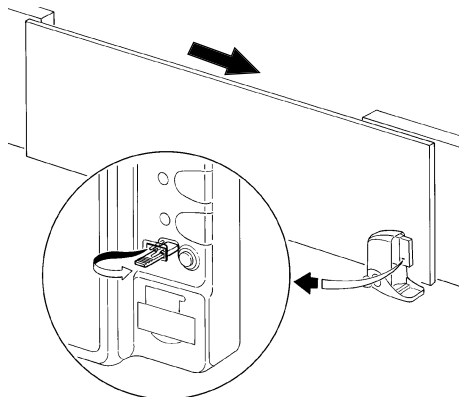
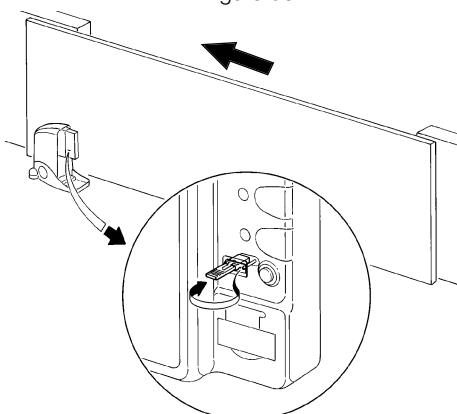

Figure 50
Figure 51
2 Depending on the position of the gearmotor, right-hand or left-hand, adjust the jumper for selection of the direction of the "Open" manoeuvre, as shown in Figure 50 or Figure 51.
- 4 Check that the manoeuvre in progress is closing, otherwise press key P3 **[A]**, invert the position of the jumper (see fig. 50 and 51) and repeat the procedure from point 1.